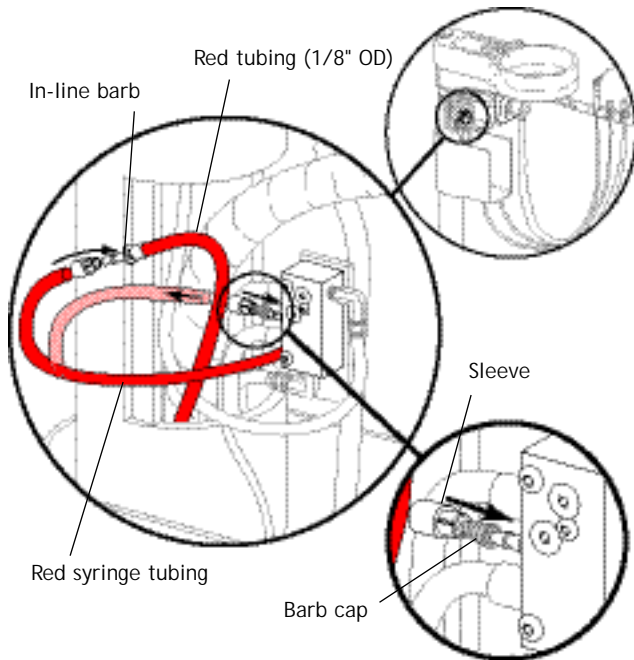

Figure 16
8. Disconnect the red syringe tubing from the water manifold. Install a barb plug onto the barb and secure with a uni-clamp (see Figure 16).
9. Connect the red syringe tubing to the red tubing using an in-line barb and uni-clamps (see Figure 16).